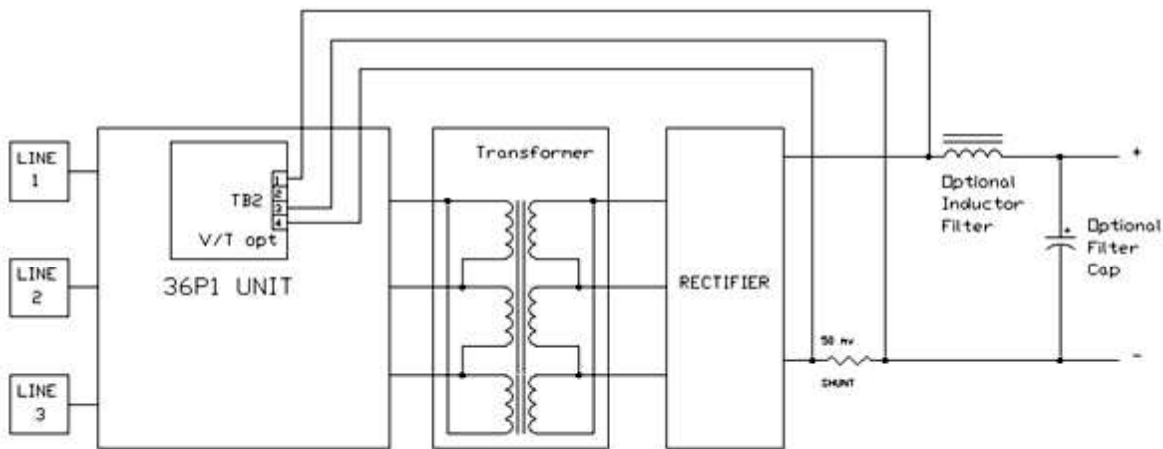

Fig 6
2. The Current feedback signal is from a 50 millivolt shunt that is located in the negative leg of the DC output circuit. For proper performance, the shunt must be connected directly to the negative output of the rectifier before any filter components. (Fig. 6 shows typical connections.) The shunt signals are then brought back to TB2 pins 3 & 4 on the V/T option card with pin 3 being the positive side of the shunt and pin 4 being the negative.
3. A DC Voltage feedback signal is also required from the positive output of the rectifier. A single lead wire that is appropriately rated and fused is connected to the rectifiers positive output prior to any filtering components and is brought back to TB2 pin 1 on the V/T option card as the DC voltage feedback signal. (Fig. 6 shows typical connections.)